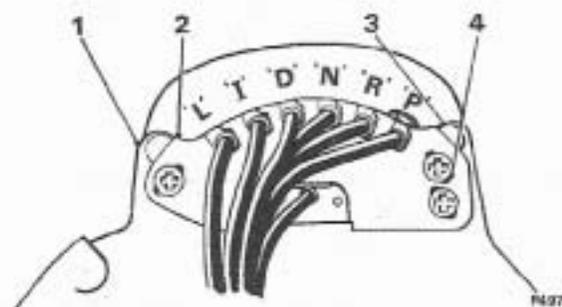

FIG. T163 MOVING AND FIXED CONTACTS (REAR VIEW)
Note Radial adjustment of the fixed contact insulating plate is provided by elongated holes used to attach it to the casting (see Fig. T163).
6. If this check reveals insufficient contact pressure on any of the fixed contacts ensure that the insulating plate is in its uppermost position. This is when the plate end stops are touching the machined lugs as shown in Figure T163.